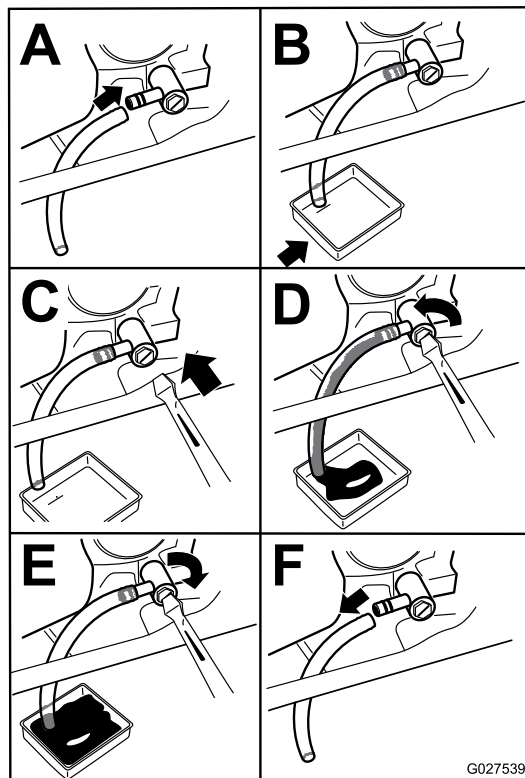

Figure 34
4. Drain the oil from the engine (Figure 34).